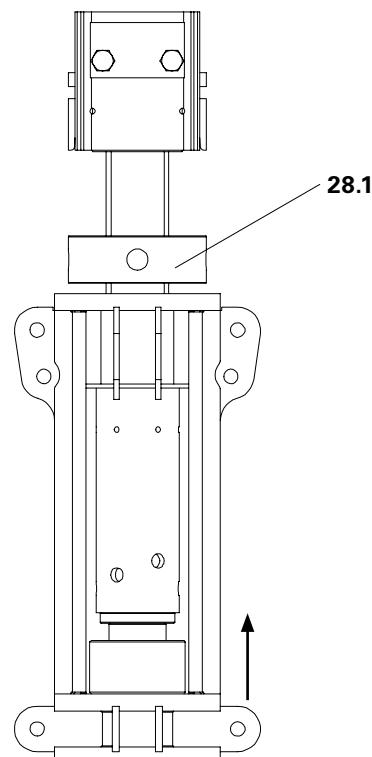

Fig. D2.02
3. Completely extend the hydraulic cylinder (43.4) until the spindle nut (28.1) can freely move. (Fig. D2.02)
4. Insert the Mounting Shaft VST (29) into the spindle nut (28.2).
5. Turn the spindle nut (28.1) with Mounting Shaft VST (29) until there is a 10 mm spacing to the head plate.